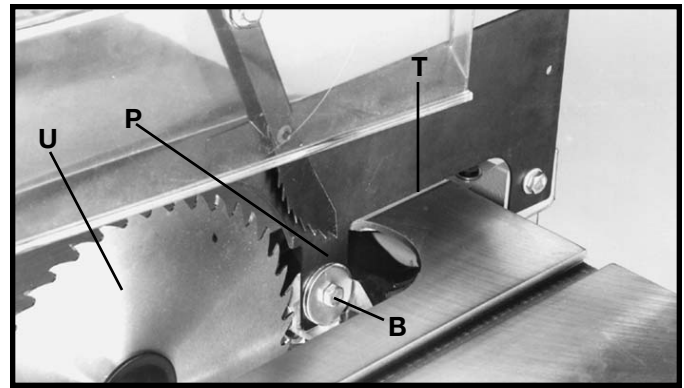

Fig. 22
10. Assemble splitter (P) Fig. 22, inside the splitter mounting bracket as shown. Push splitter (P) down as far as possible, making certain bottom edge (T) of splitter (P) is parallel with table surface, and tighten screw (B).
11. Reassemble the saw blade (U) Fig. 22.